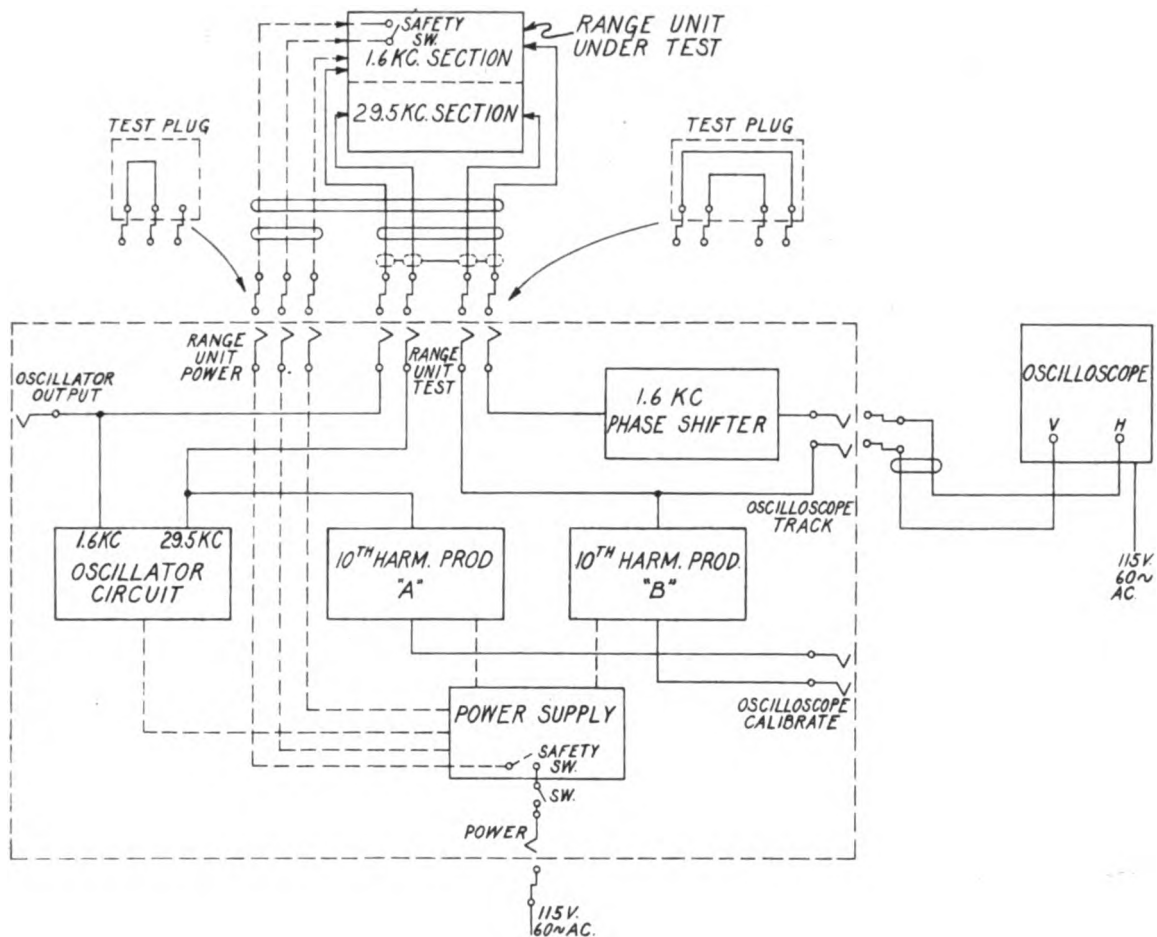

FIG. 18. CALIBRATOR BC-725-A, BLOCK SCHEMATIC
## 11. CALIBRATION TEST (Figs. 18, 19, and 20)
(1) For the calibration test the oscilloscope cord is plugged into the OSCILLOSCOPE CALIBRATE jack. Connections are made to the Range Unit by means of a spade-terminal-ended test cable, through which is also supplied heater and plate power for the amplifiers in the range unit circuit (Fig. 18). Covers on the calibrator and range unit must be in place to close the safety switches in the 115-volt, 60-cycle, a-c supply.
*b.* Referring again to Figs. 18 and 19 the calibrator circuit is set up for a tracking check by plugging the oscilloscope cord into the OSCILLOSCOPE TRACK jack. 1.64 kc from the oscillator circuit is fed to the low-frequency phase shifter section of the range unit under test, whose output connects through the knob-controlled PHASE shifter to the horizontal deflection plate circuit of the oscilloscope. 29.5 kc from the oscillator circuit is supplied to the high-frequency section of the range unit (the same connection employed during calibration) whose output connects to the vertical deflection plate circuit. The horizontal and vertical oscilloscope amplifiers are used in the tracking test.